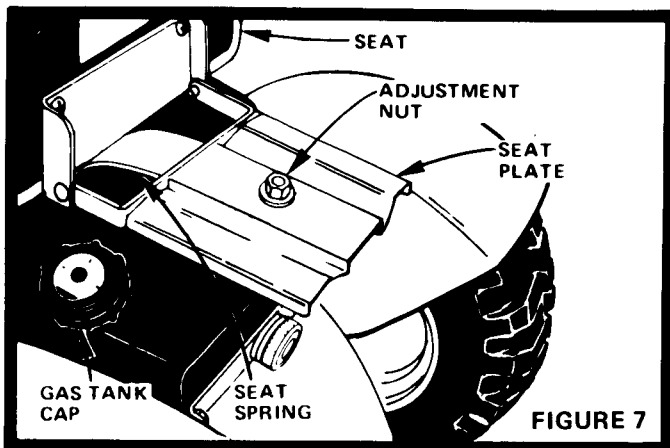

FIGURE 7
- Seat position may be adjusted forward or backward by loosening Nut in Seat Plate (Fig. 7). NOTE: WHEN RETIGHTENING NUT AFTER ADJUSTMENT, MAKE SURE SEAT PLATE HAS NOT TWISTED OUT OF ALIGNMENT WITH SEAT SPRING.
- Check Engine Oil Level with Tractor on level ground. Wipe dipstick (Fig. 7) clean, screw it in tight for a few seconds, remove and read Oil Level. If necessary, add Oil until "FULL" mark is reached. In summer use S.A.E. 30 (SC, SD or SE) Oil. In winter (below 32°F.) use S.A.E. 10W30 (SC, SD or SE) or 10W40 (SC, SD or SE). In extreme cold (below 0°F.) use S.A.E. 5W20 (SC, SD or SE). NOTE: DO NOT OVERFILL.
- Fill Fuel Tank (Fig. 7) with fresh regular grade lead-free or leaded gasoline. Capacity is 3 - 1/4 gallons. NOTE: DO NOT SWITCH FROM LEADED TO LEAD-FREE GASOLINE.